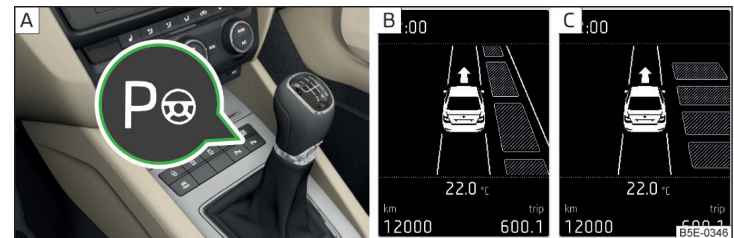

Fig. 155 System button / display
- The driver can stop the parking process at any time by pressing the symbol key P_{steering} » Fig. 155 on page 143 or by a driver steering intervention.
The system can be enabled or disabled by pressing the symbol key P_{steering} » Fig. 155 on page 143 - [A].
- Press the symbol button once P_{P} » Fig. 155 - [A].
The display shows the following » Fig. 155 - [B].
- Press the symbol button twice P_{P} » Fig. 155 - [A].
The display shows the following » Fig. 155 - [C].
➤ Press the symbol button  » Fig. 155 on page 143.